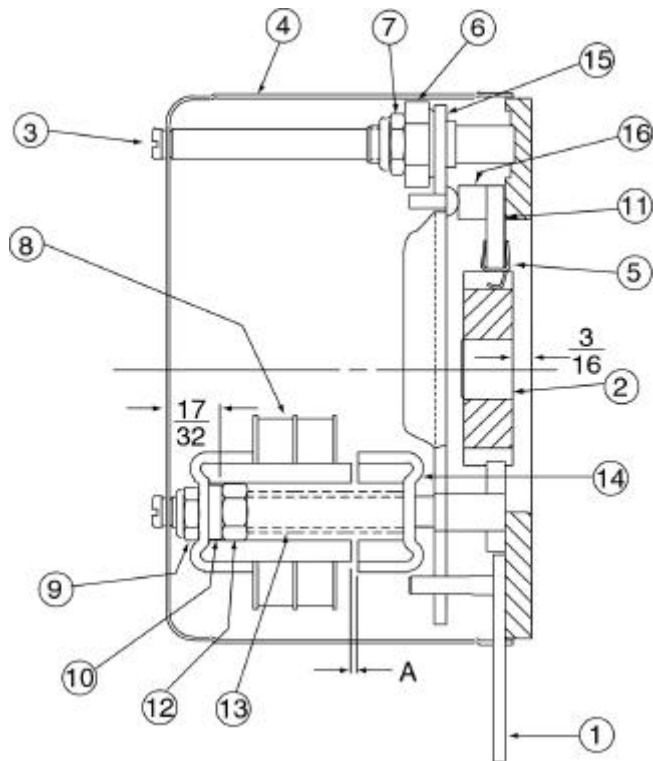

Figure 4. Brake Gap Adjustment
## MANUAL RELEASE (See Figure 4)
### FRICION DISC REPLACEMENT (See Figure 4)
1. Remove the three cover screws (3), cover (4), nuts (9), magnet assembly (8), washers (10), nuts (12), torque springs (13), armature (14), nut (7), nut (6), pressure arm (15) and stationary disc (16).
2. Install new rotating disc (11) making sure anti-rattle spring (5) is installed in position shown and does not rest in a hub tooth space containing a set screw.
NOTE: In reassembly, tighten nut (6) so that it just makes contact with pressure arm (15). LOCATE nut (12) 1/2" from end of stud as shown in Figure 4. Tighten nut (9) as described under MAGNET ASSEMBLY REPLACEMENT. Readjust magnet air gap as described under WEAR ADJUSTMENT.
### WEAR ADJUSTMENT (See Figure 4).
### MAGNET ASSEMBLY REPLACEMENT (See Figure 4)